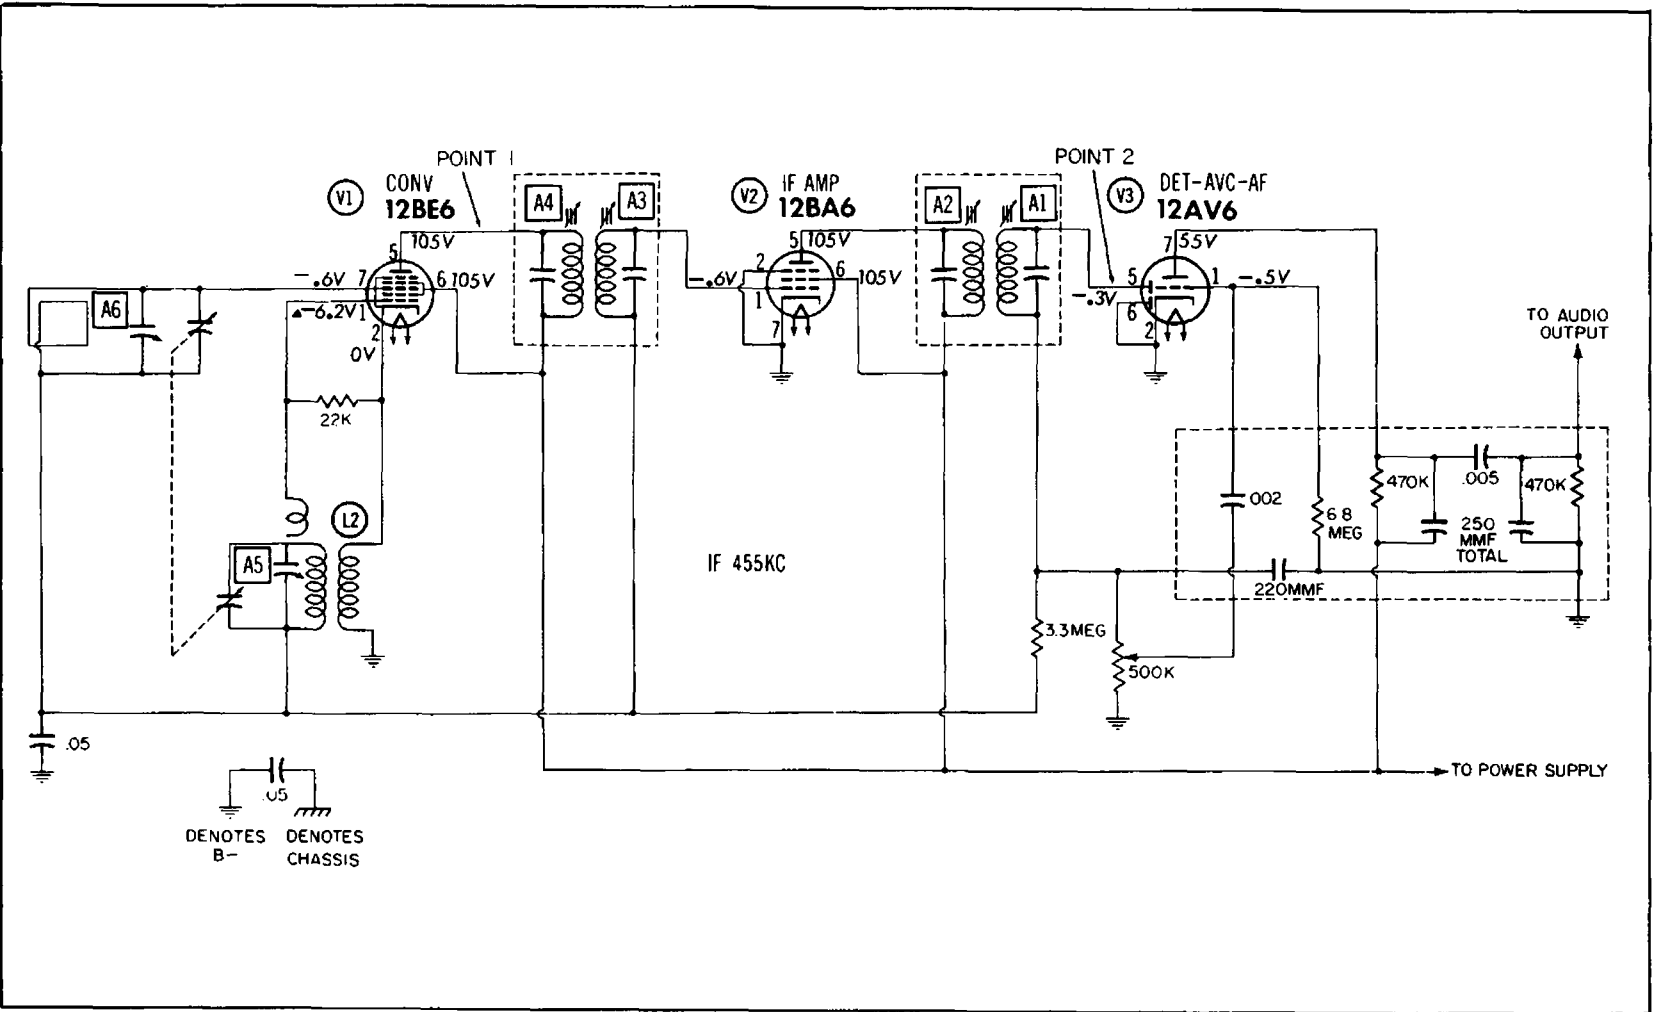

Fig. 9-8. Partial schematic of an AC-DC receiver, showing the check points and adjustments for tuned signal-tracer alignment.
1. Set the signal-tracer function controls for the receiver IF frequency, and connect the probe to the converter plate (point 1 in Fig. 9-8).